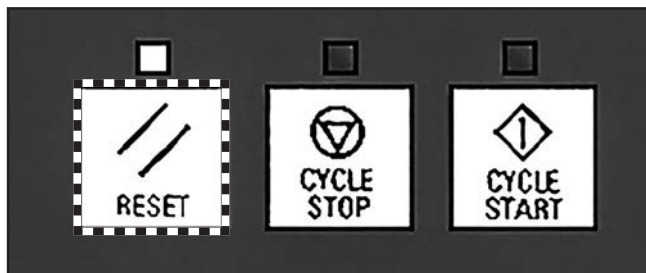

Figure 98. RESET key location.
6. Press RESET key located in bottom right corner of MCP (see **Figure 98**) to extinguish PPU status area alarms.